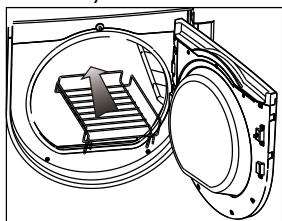

Fig.2
4. Lift the dryer rack horizontally into the drum. (Fig.2)